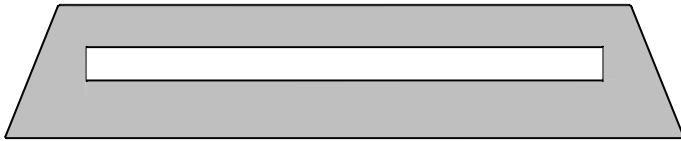

Figure 53
8. Apply the accessory decorative glass or rocks to the shaded area only. **See Figure 53.** Use enough to cover the area of the fireplace, but do not allow the media to reach higher than the flange surrounding the burner. Never place decorative media inside the flange surrounding the burner itself. This fireplace can use crushed glass, glass droplets (1/2 inch) or glass drops (1 inch), or ceramic fiber rocks and pebbles. Mix colors and glass types, but do not exceed the recommended amount of decorative media.